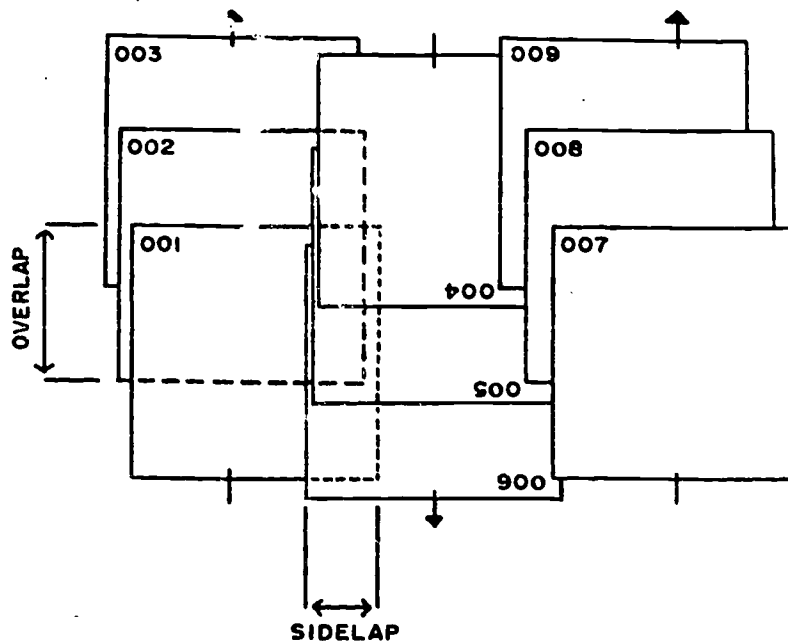

Figure 2-29. Photo index.
Preparation. Before actual production of the mosaic begins, several steps must be taken. First a photo index must be prepared. (See fig. 2-29.) A photo index is a rough assembly of aerial prints made from the negatives exposed on a reconnaissance or mapping mission. The photo index is prepared by first removing the borders from the prints. The prints are then assembled by matching the detail in the center portions of the overlapping print areas.
b. The percentage of overlap and sidelap. (See fig. 2-29.)
(1) Overlap is the identical coverage that is contained in consecutive frames from a single flight pass. Ideal overlap is 60 percent of the imagery.
(2) Sidelap is the identical coverage that is contained in different flight passes over adjacent areas. Ideal sidelap is 30 percent of the imagery.